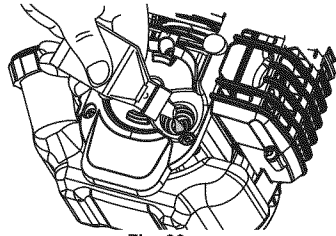
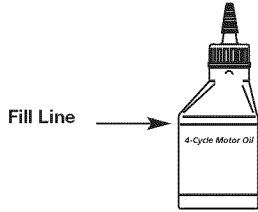

Fig. 22
Fig. 23
**NOTE:** Use the bottle and spout saved from initial use to measure the correct amount of oil. The top of the label on the bottle measures approximately 3.04 fl.oz. (90 ml) (Fig. 23). Check the level, See Checking the Oil Level. If the level is low, add a small amount of oil and recheck. Do not overfill (Fig. 22).